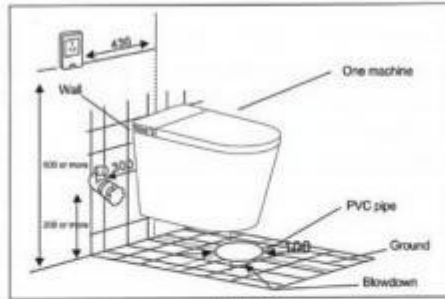

figure 1
The picture is shown in Figure 1. This picture shows the main components and construction points in the construction.
- Install the water inlet angle valve (see Figure 1)